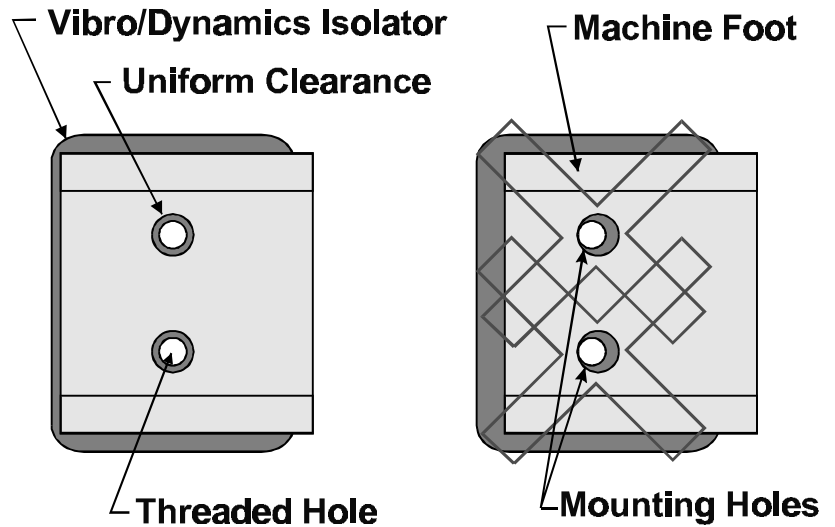

FIGURE 1
3. Position each isolator under the machine foot so there is uniform clearance between the threaded holes in the isolator and the inside surface of the mounting holes (see Figure 1). Any contact between the leveling screws and the inside surface of the mounting holes as the leveling screws are being turned into the isolator housing can cause a leveling screw to jam. **Note:** The larger model Two-Screw BFM Series are shipped with the preinstalled leveling screws. The isolator should be installed as a unit to the bottom of the machine foot. Two-piece sleeves are provided to protect the leveling screws as they are inserted through the mounting holes. Once installed, remove the top, longer sleeves and install the locknuts tightly against the machine foot. Carefully lower the machine. The short sleeves should remain installed to protect the leveling screws from contact with the mounting holes. If your isolators have preinstalled leveling screws, proceed to Step 7.